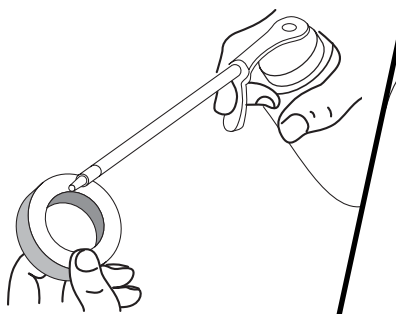

Fig. 24
4. Apply enough clean SAE 30 oil to lightly coat the filter (Fig. 24).